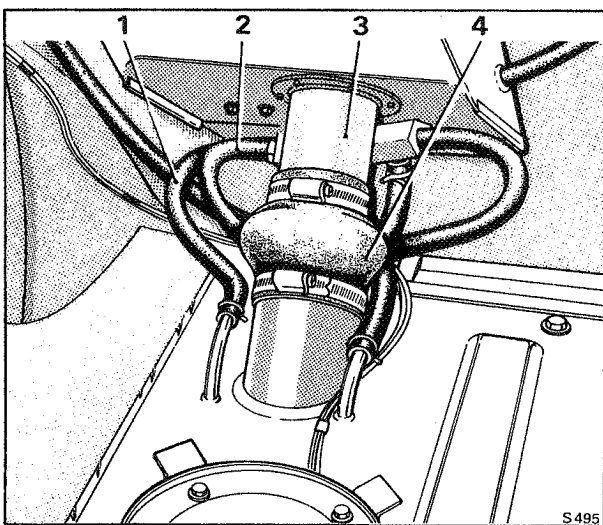

Fig. K5 Fuel filler assembly
7. Using the special pliers (RH 8090) remove the steel clip from the rubber hose situated one on either side of the fuel tank filler (see Fig. K5).